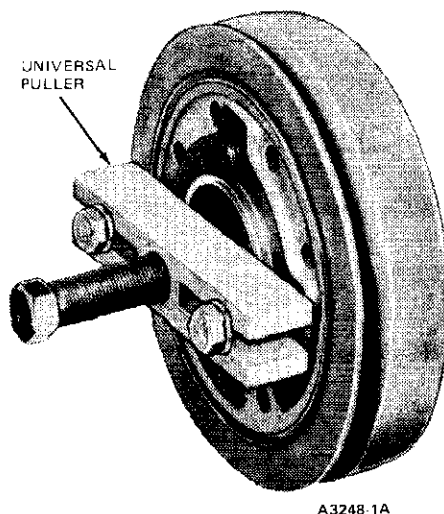

FIG. 21 Removing Crankshaft Vibration Damper
8. Remove bolt and washer attaching crankshaft damper. Remove crankshaft damper with a puller (Fig. 21). Remove Woodruff key from crankshaft.